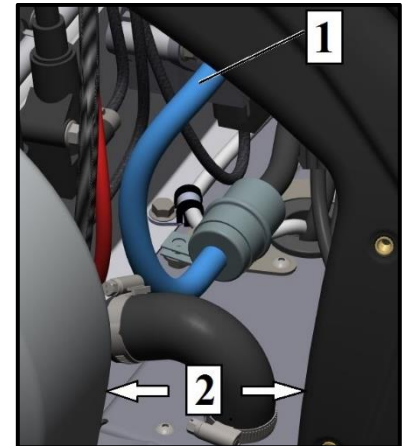

Fig. 17
8. Take out the hose (pos.1, Figure 17) from the opening (pos.2, Figure 17) between the transformer protection and the oil tank.